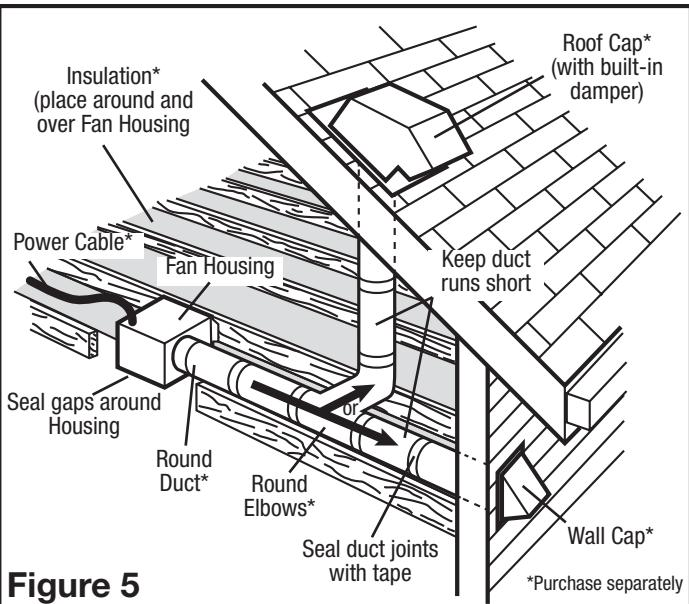

Figure 5
2. Ensure duct joints and exterior penetrations are sealed with caulk or other similar material to create an air-tight path to minimize building heat loss or gain and to reduce the potential for condensation. Place/wrap insulation around duct and/or fan in order to minimize possible condensation buildup within the duct, as well as building heat loss or gain (Figure 5).